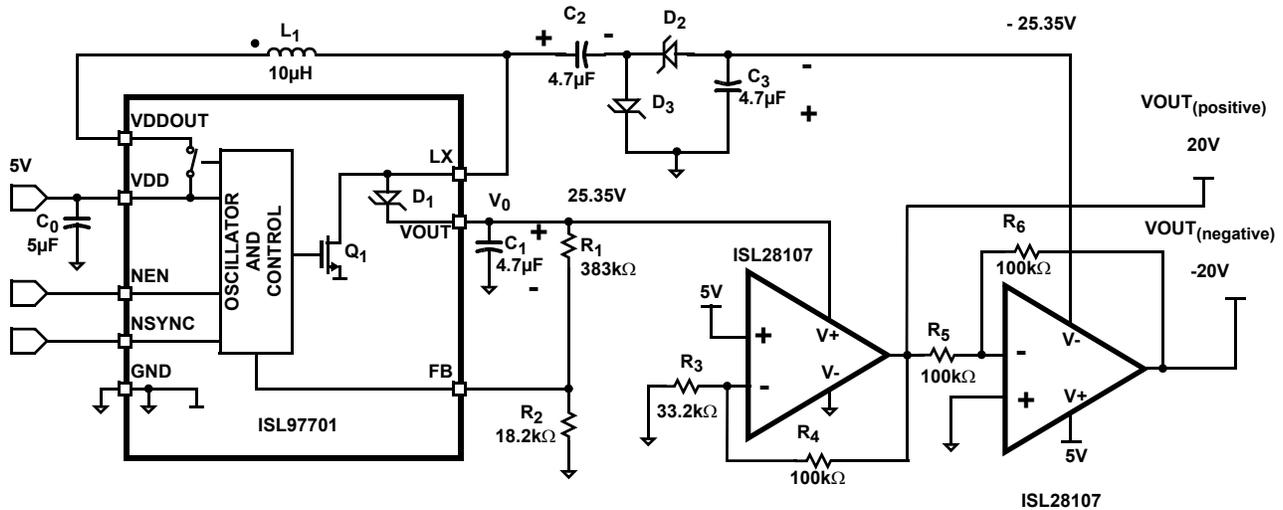

FIGURE 5. REFERENCE DESIGN TO GENERATE A POSITIVE AND NEGATIVE SUPPLY
This application note will discuss a method to combine the operation of a boost regulator and a negative voltage converter. The circuit described will generate both a positive and a negative supply from a single low voltage supply. The circuit in Figure 5 shows the standard ISL97701 application circuit for a +20V supply along with two ISL28107 op amps, two diodes and two capacitors to generate a well regulated -20V supply.
However, the ISL97701's output voltage is not dependent upon any losses in the circuit. This is because all the losses are inside the circuit's feedback loop of the ISL97701, and are automatically accounted for. The output voltage is defined from the feedback resistor network shown in Figure 5 and calculated in Equation 1, where V_{refFB} is the internal reference voltage of the ISL97701.
The operation of the negative supply is best understood by considering Figure 5. We will start our analysis under steady state conditions (the inductor operating in continuous conduction mode and C_1 is equal to the voltage calculated in Equation 1).
When Q_1 turns off, the inductor voltage flies up turning on D_1 and D_3 . Diode D_2 is blocking current flow from C_3 . The inductor current now charges both capacitors C_1 and C_2 with the polarity as shown in Figure 5. The voltage on C_2 is equal to the voltage on C_1 , plus the forward voltage drop of D_1 .
2. The maximum output current of the circuit shown in Figure 5 is limited by the maximum output current of the ISL28107 op amps, which is 40mA.